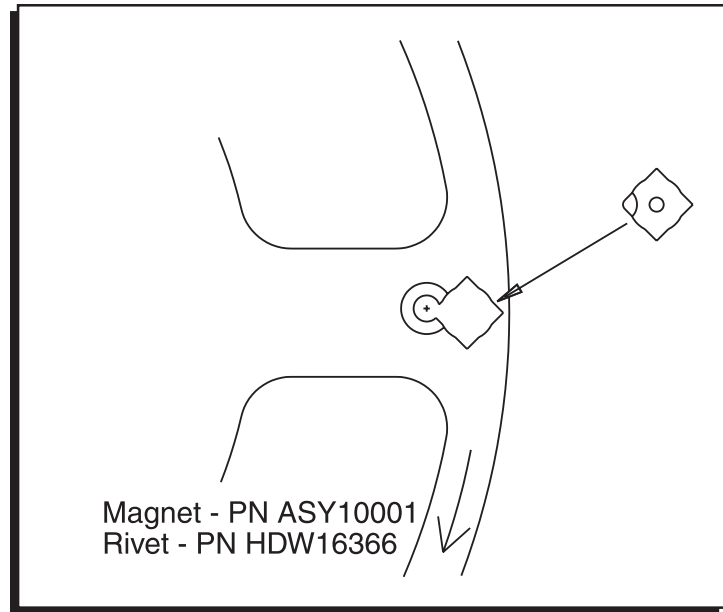

Figure 2 Installing the Magnets.
2. Install the magnet in the wheel with the hole in the plastic overmolding facing out from the engine (Figure 2). The chamfer on the magnet must be positioned next to the aluminum rivet.